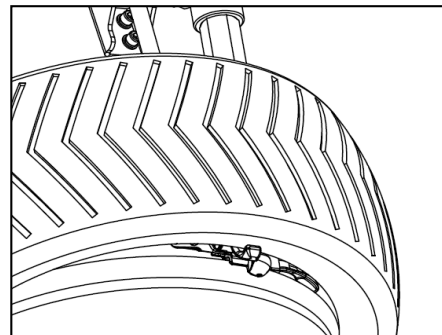

FIG17
- After separate the upper tire lip, take out the inner tube if has. Lift the lower tire lip to rim edge. Lower the hook and take the lower tire lip like FIG17 then step the rotation pedal to separate the lower side.